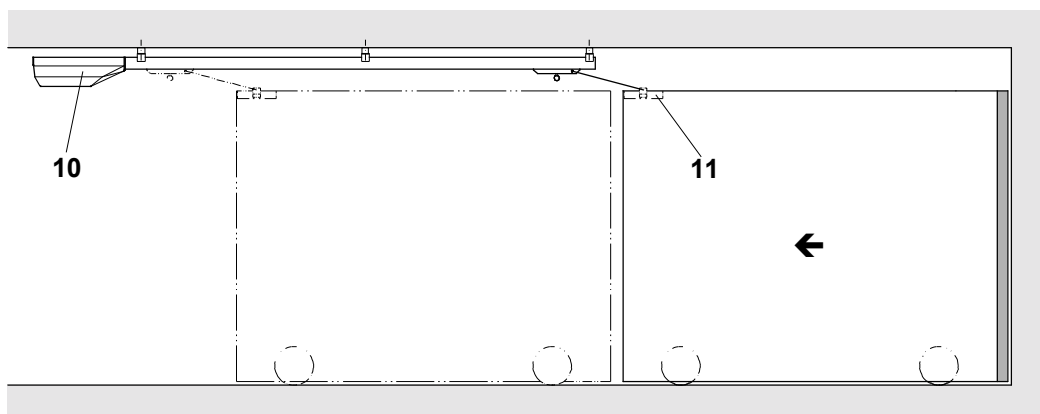

Fig. 3
B) Drive head(10) behind the opened door. Fig. 3